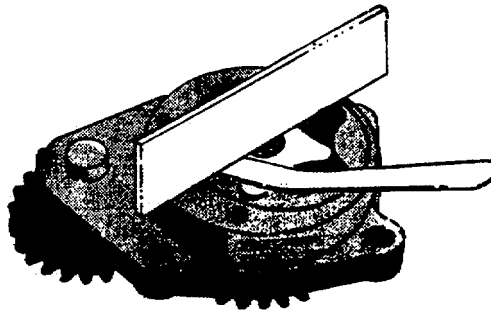

FIGURE 3-65. Drive/Planetary to Port Plate Measurement.
- h. Measure the clearance of the gerator drive/gerator planetary to port plate (FIGURE 3-65). Maximum: 0.005 inch (0.127 mm).